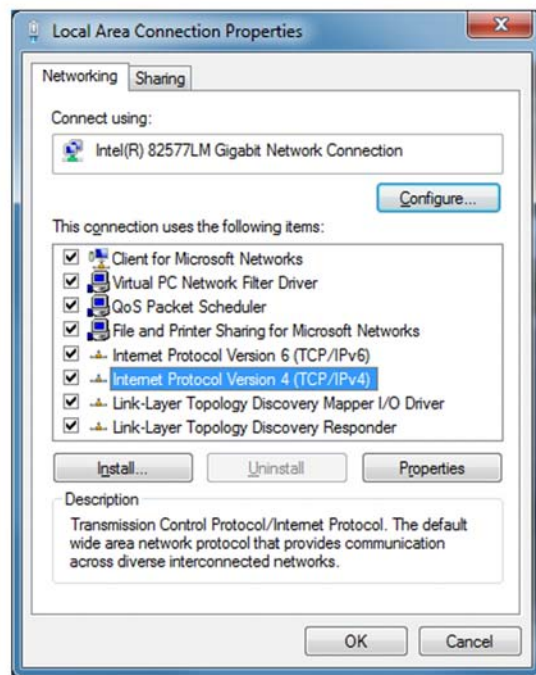

Figure 1 Properties window
4. Highlight Internet Protocol Version 4 (TCP/IPv4). Select Properties, refer to Figure 1. The Internet Protocol Version 4 (TCP/IPv4) Properties window will open.